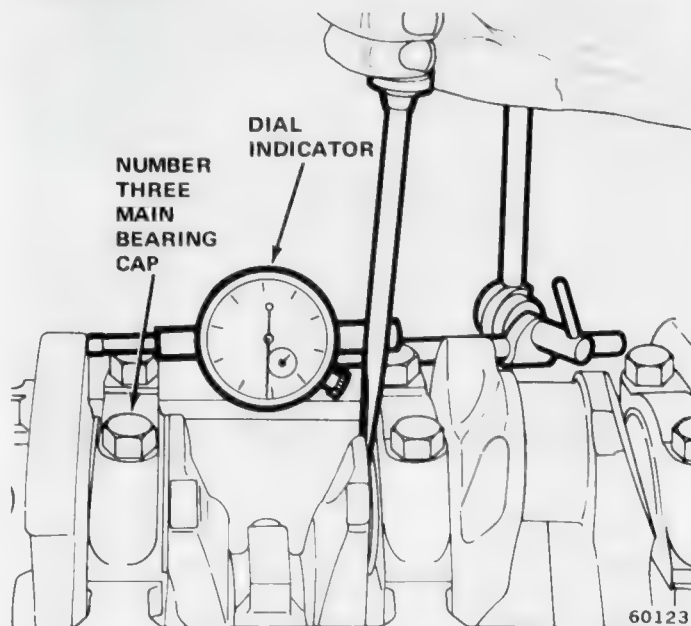

Fig. 1B-115 Measuring Crankshaft End Play
(1) Attach dial indicator to cylinder block adjacent to No. 3 main bearing (fig. 1B-115).
(2) Pry shaft forward with flat-bladed screwdriver, position dial indicator push rod on face of crankshaft counterweight and set dial to zero.
(3) Pry shaft fore and aft. Read dial indicator. End play is difference between high and low readings. Correct crankshaft end play is 0.0015 to 0.0065 inch (0.002 to 0.0025 desired).